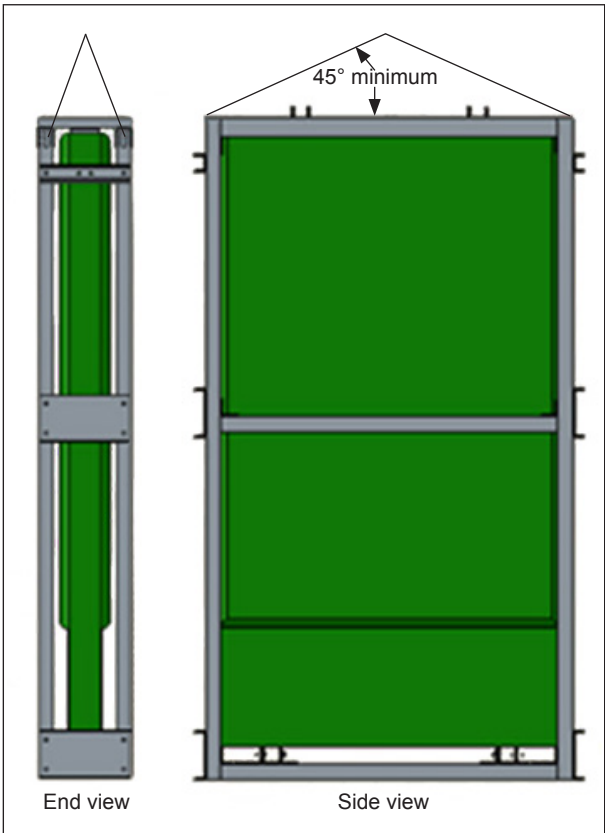

Figure 1: Lifting Shipping Frame
- 1. Lift the shipping frame by the lift points. Refer to Figure 1.